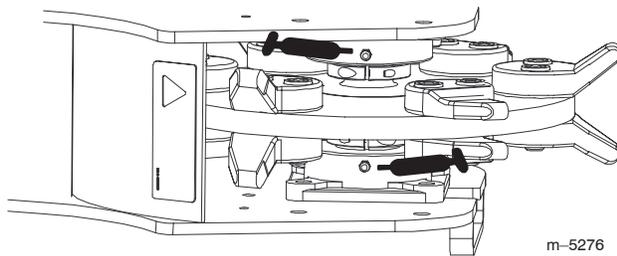

Figure 9
2. Connect a grease gun to each fitting (Fig 9).